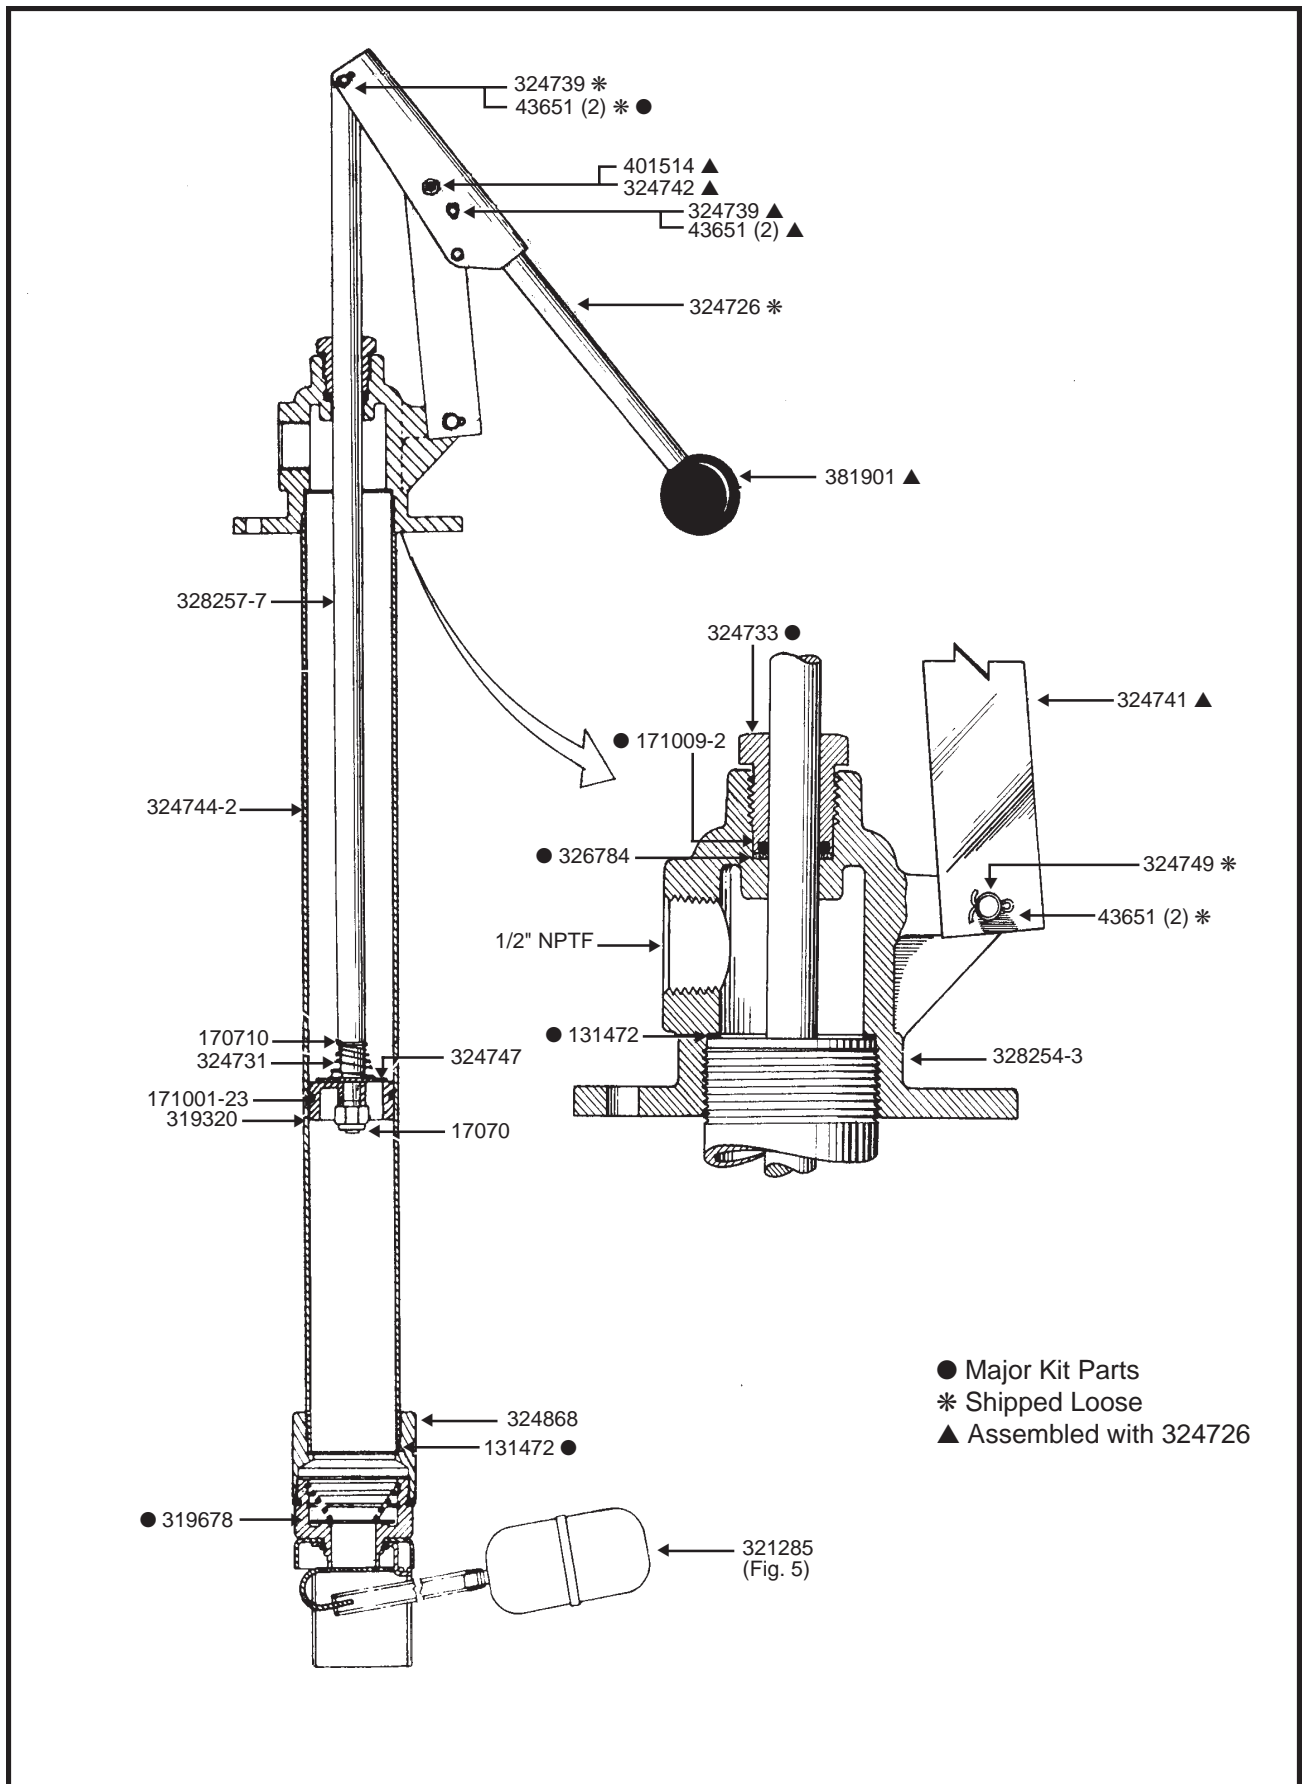
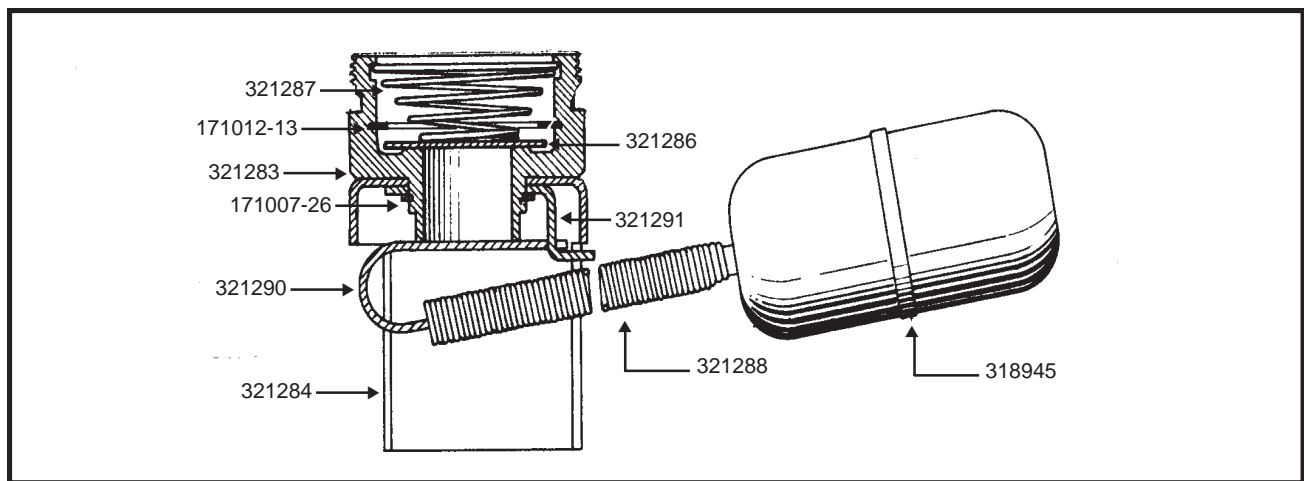

Figure 3: Components of Hand-Pump Assembly
Figure 5: Model 321285 Low-Level Cutoff Assembly
1. Use pin 324739 and two cotter pins 43651 to fasten bracket-lever assembly 324726 to top of pump rod 328257-7 (Figure 3).
2. Use pin 324749 and two cotter pins 43651 to fasten link 324741 to body 328254-3 (Fig. 3).
from tube 324744-2 (Fig. 3).
5. Slide cover and seal assembly onto tube 324744-2 until the top is flush with underside of body 328254-3 (Figures 3 and 4).
4. Before transferring pump assembly to a new drum, make sure foot valve 321281 in low level cutoff assembly 321285 is completely seated and does not stick (Fig. 5).
3. Remove low level cutoff assembly 321285 and lower gasket 131472 by unscrewing adapter 324868 from tube 324744-2 (Fig. 3).
4. Remove three hex cap screws 77787, three lockwashers 172207-1 and three hex nuts 77650. Slide cover and seal assembly 323496-A4 off pump tube 324744-2 (Figures 3 and 4).
5. Unscrew tube 324744-2 from body 328254-3 and pull completely off rod 328257-7 (Fig. 3).
6. Remove two cotter pins 43651 and pin 324739 inserted at top of rod and bracket and lever assembly 324726 (Fig. 3).
8. Pull exposed rod out of body and remove upper gasket 131472 (Fig. 3).
9. Remove plug 324733, "O" ring 171009-2 and gasket 326784 from body cavity (Fig. 3).
10. Remove nut 17070, plunger body 319320, valve 324747, spring 324731 and "E" retaining ring 170710 from bottom of rod (Fig. 3).
11. Remove "O" ring 171001-23 from plunger body 319320 (Fig. 3).
12. Unscrew adapter 324868 (Fig. 3) from valve adapter 321283 (Fig. 5).
13. Remove "O" ring 319678 (Fig. 3) from valve adapter 321283 (Fig. 5).
REFER TO FIG. 5 DURING STEPS 15-18
PARTS LIST - Low-Pressure Hand Pump Assembly (Figure 3)